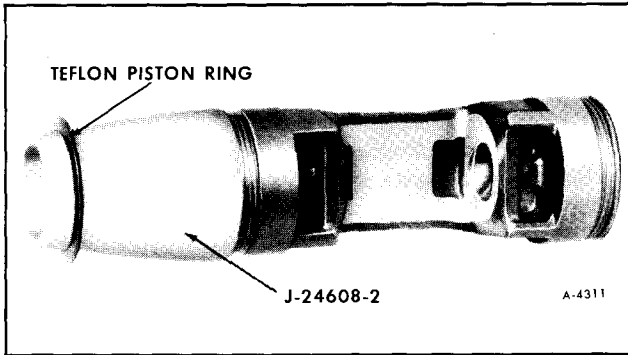

Figure 85—Teflon Piston Ring Positioned on Ring Installer Guide
4. Install a Teflon ring on the Ring Installer Guide J-24605-2 as shown in Figure 85, with the dished or dull-side down and glossy-side up.